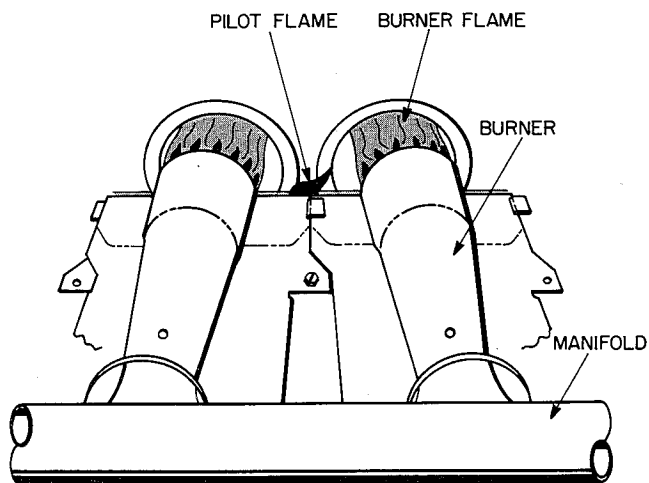

Fig. 8—Pilot and Burner Flame
4. Look through sight glass in burner enclosure and check burner and pilot flame. The main burner flame should be clear blue, almost transparent. The pilot flame should be well defined. See Fig. 8. To operate the furnace in low heat reset the power and energize the thermostat, low heat will last for 6 minutes which should be sufficient time to obtain the amp draw readings.